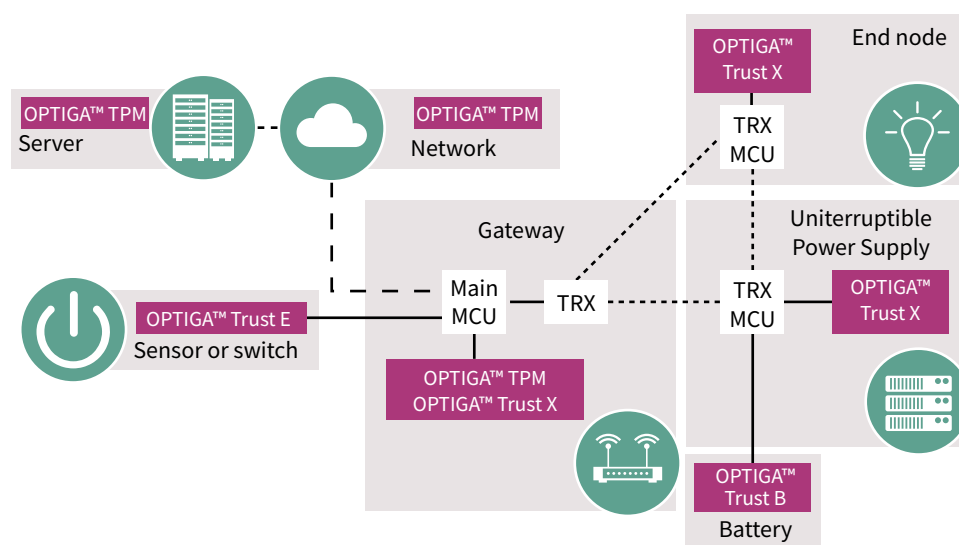

Figure 1. Infineon provides a variety of OPTIGA™ Trust products for different applications in networks, servers and connected devices.
Infineon OPTIGA™ TPMs have been independently evaluated and certified to Common Criteria Evaluation Assurance Level (CC EAL) 4+. This is also a mandatory requirement of the TCG to achieve the approval of a TPM product. They include 6 kilobytes of user-accessible non-volatile memory and support Elliptic Curve Cryptography (ECC-256) and RSA cryptographic algorithms, with the private key stored in secured hardware (HW). As shown in Figure 1, Infineon also offers a line of OPTIGA™ Trust products with other security feature sets (not TPMs) that can be used to address a variety of system trust requirements.